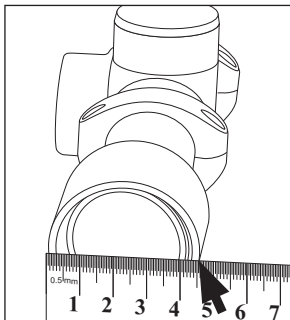

FIGURE B-1.
1. Determine your daytime scope objective tube diameter (external - not diameter of the glass lens) with a metric ruler (with a tram-mel for more accurate results) as shown in Figure B-1.